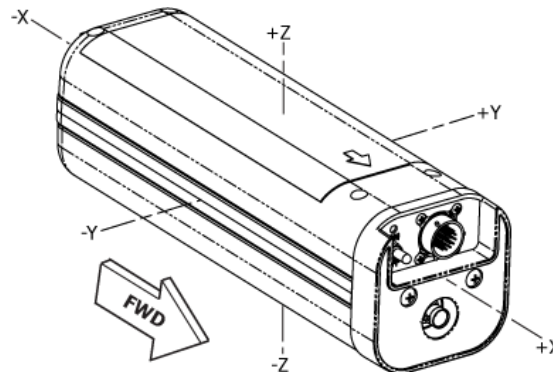

Figure 26 ELT Orthogonal Axes
- 1) ACR Electronics recommends installation of the C406-N HM ELT in helicopters. The C406-N HM ELT is equipped with a 5-axis G-switch module in addition to the usual primary G-switch, which is oriented to the direction of flight. See Figure 26 ELT Orthogonal Axes.